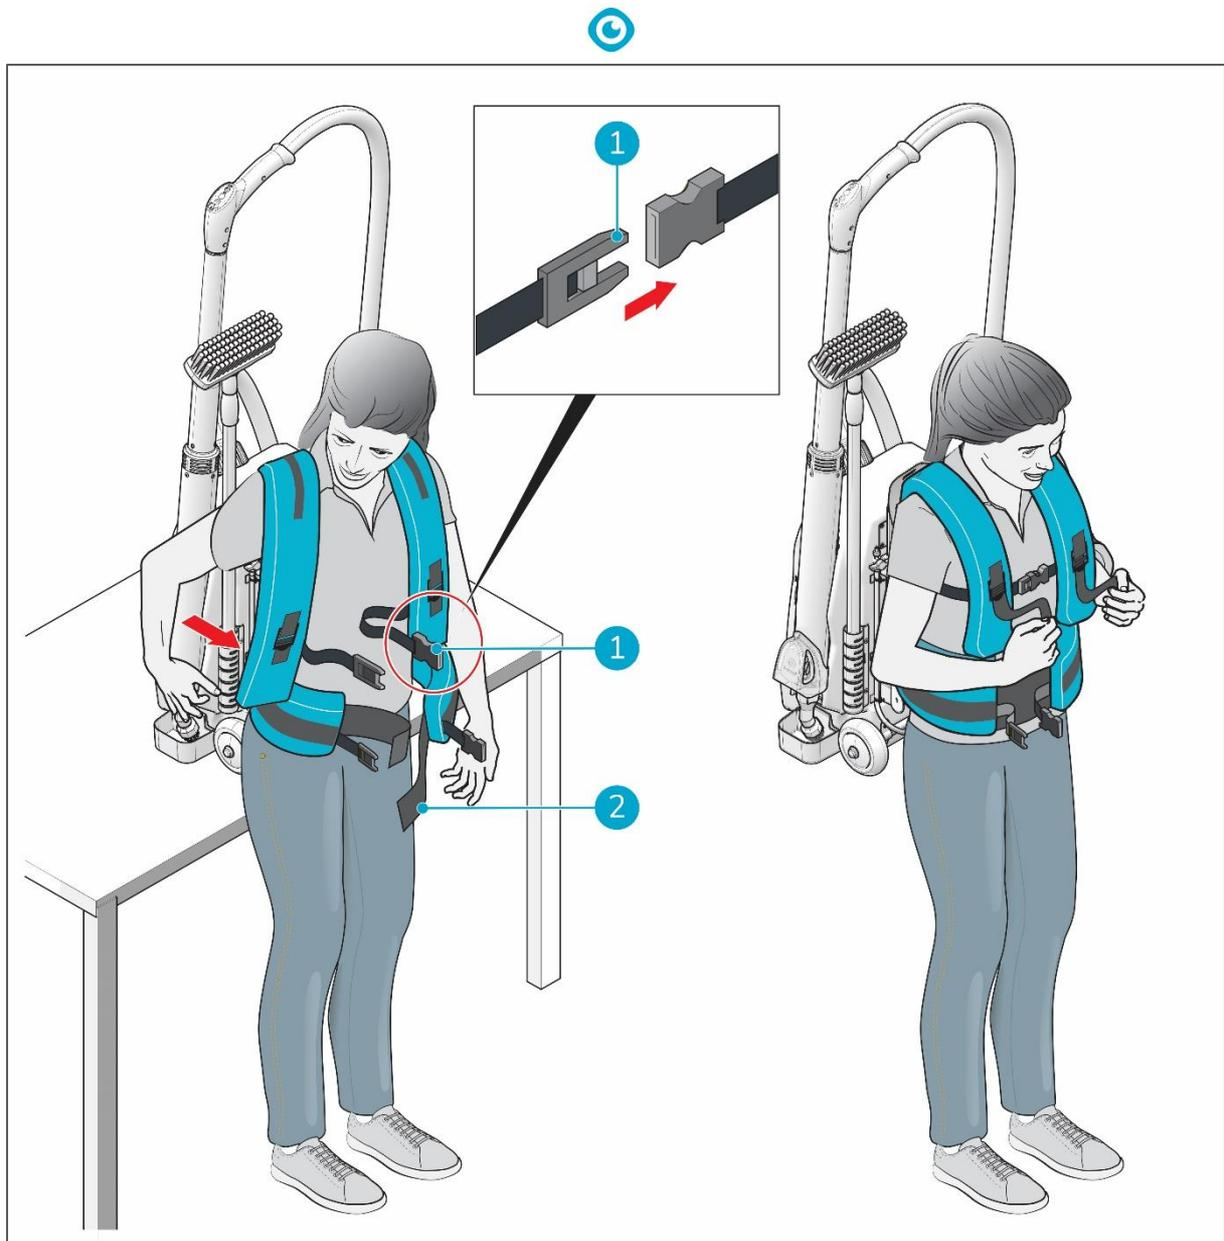

Figure 21
6. Release the straps (Figure 21, pos 1) of the harness to their maximum size.
9. Adjust waistband (Figure 21, pos 2) and straps (Figure 21, pos 1) for comfort.